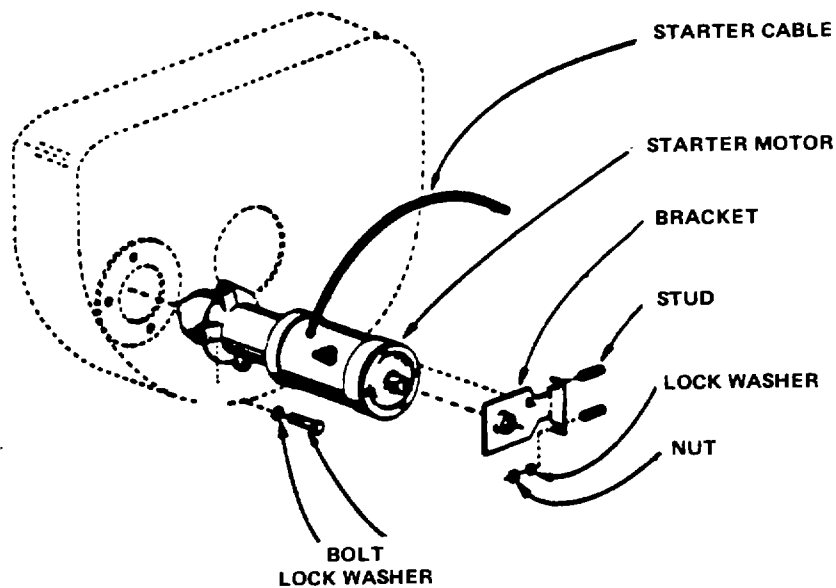
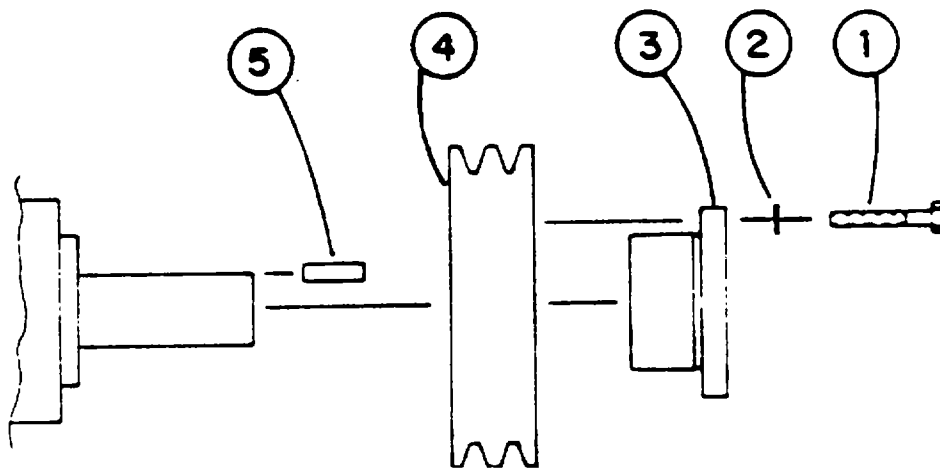
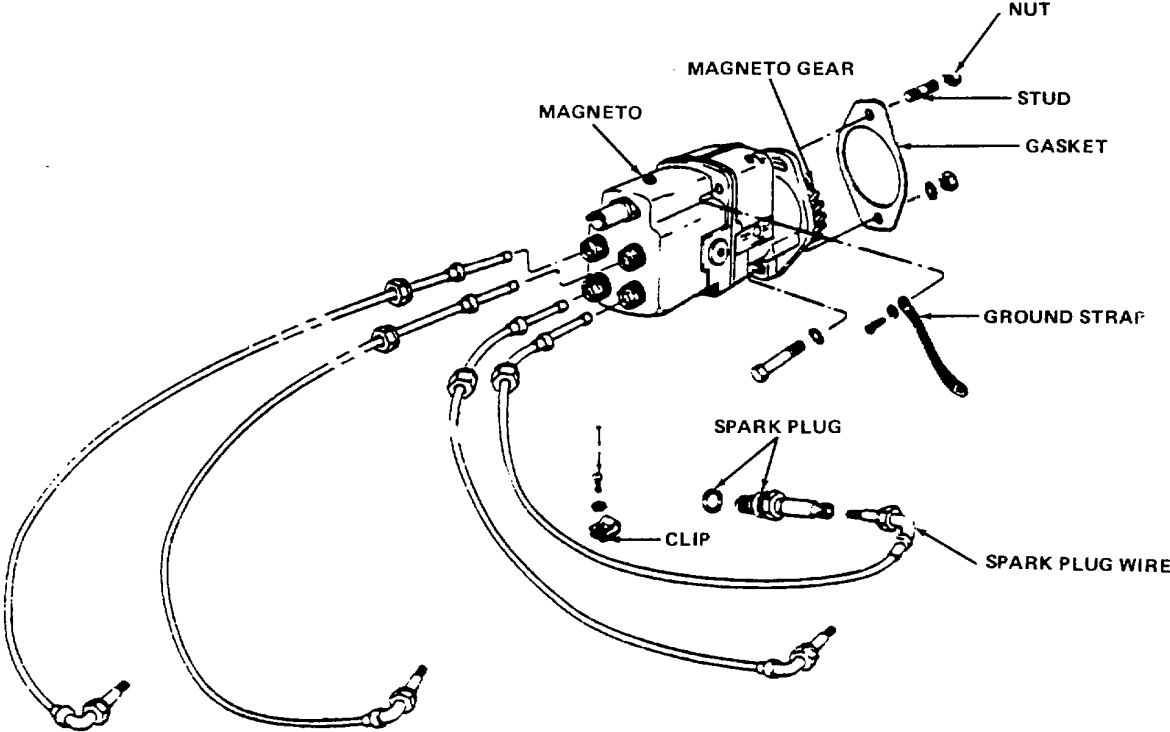

Figure 6-7. Starter Assembly
Figure 6-8. Clutch Assembly
Figure 6-9. Magneto Assembly
- a. Starter. Remove starter. (Fig. 6-7)
- (1) Disconnect starter cable at the starter.
- (2) Remove two nuts and lock washers.
- (3) Remove starter support bracket.
- (4) Remove three bolts and lock washers. Remove the starter.
- b. Clutch. Remove clutch. (Fig. 6-8)
- (1) Remove three bolts and lock washers from drive sheave bushing.
- (2) Insert two bolts into threaded holes in bushing. Tighten bolts to push drive sheave off of bushing.
- (3) Remove bushing, drive sheave and shaft key from output shaft.
- c. Magneto. Remove magneto (Fig. 6-9)
- (1) Disconnect four spark plug wires.
- (2) Disconnect ground strap.
- (3) Disconnect main wire harness at one place.
- (4) Remove nut.
- (5) Remove bolt, lock washers and nut.
- (6) Remove magneto.